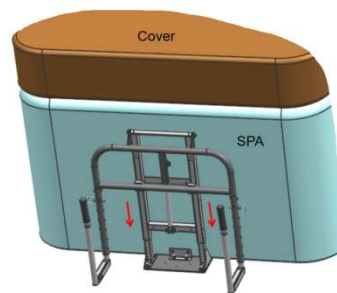
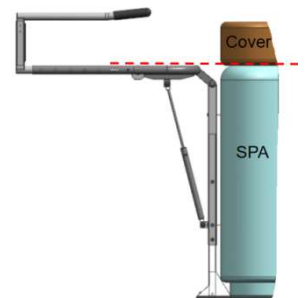

Fig.12
Fig.13
Step 6: Push the entire main frame into the Left & Right Base Standing Legs vertically.(Fig.12) Loose the Safety Lock-ing Chain and flip up the U tube and Turnable Arms to the same level to the SPA top edge.(Fig.13)